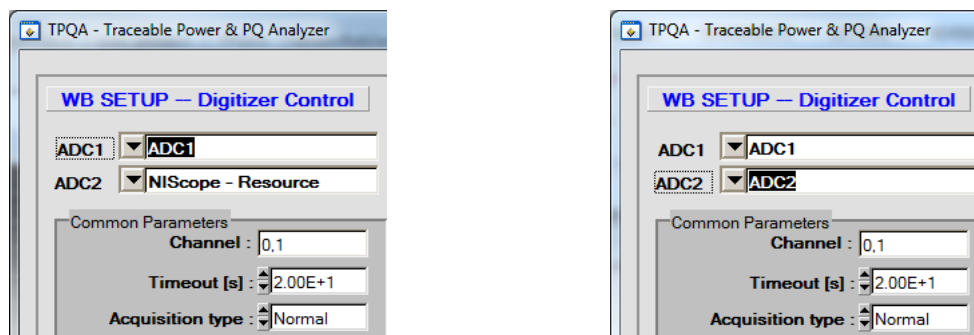

Figure A.4: Left single-ended measurements; b) right differential measurements.
All the useful parameters for configuring high speed digitizers are inside the subpanel **WB SETUP – Digitizer Control**, as shown in Figure A.4. Below is reported a brief description of main control windings. Further explanations about the operation of the buttons and controls are reported in A.2.4.5 report describing the TPQA part of the open software project, located within \doc directory of TPQA project.
- Selecting digitizers and physical channels: using **ADC1** and **ADC2** it is possible to select all PXI-5922 resources recognized by niScope driver. Within **Common parameters** box it is possible to configure all physical channels of individual digitizing cards. Figure A.4 gives an example on how to configure digitizing cards for single-ended or differential voltage measurements according to power and PQ experimental setup specifications.